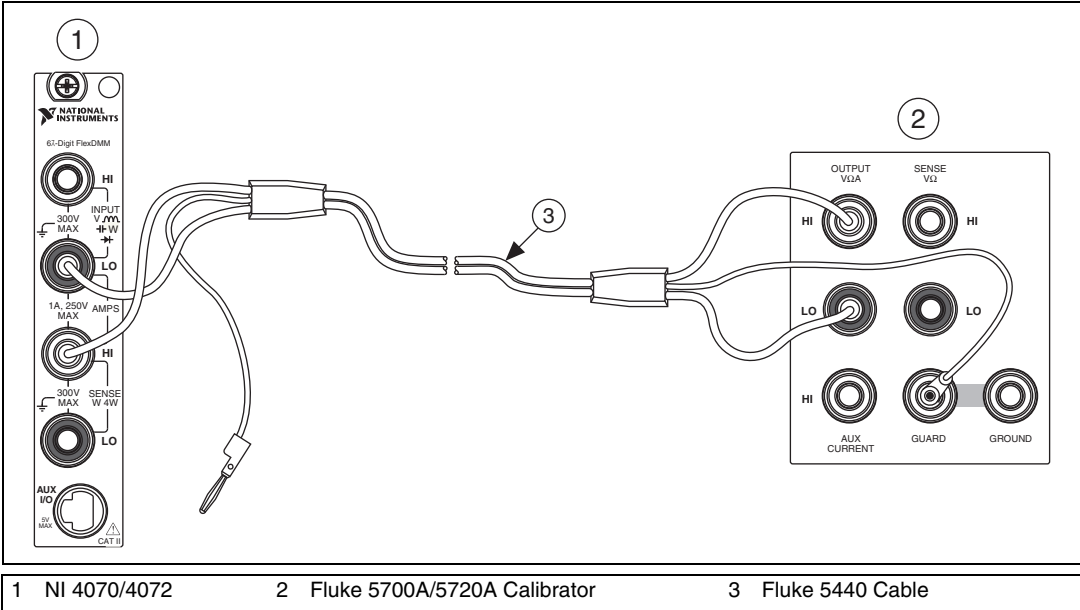

Figure 4. Cable Connections for Current
2. Fasten the connectors on one end of the Fluke 5440 cable to the NI 4070/4072 *HI SENSE* and *LO* banana plug connectors, and connect the connectors on the other end of the cable to the *HI* and *LO* calibrator binding posts. Figure 4 shows the correct connections. Table 11 lists the cable connections.
2. Fasten the connectors on one end of the Fluke 5440 cable to the NI 4070/4072 *HI SENSE* and *LO* banana plug connectors, and fasten the connectors on the other end of the cable to the *HI* and *LO* calibrator binding posts. Figure 4 shows the correct connections. Table 11 lists the cable connections.